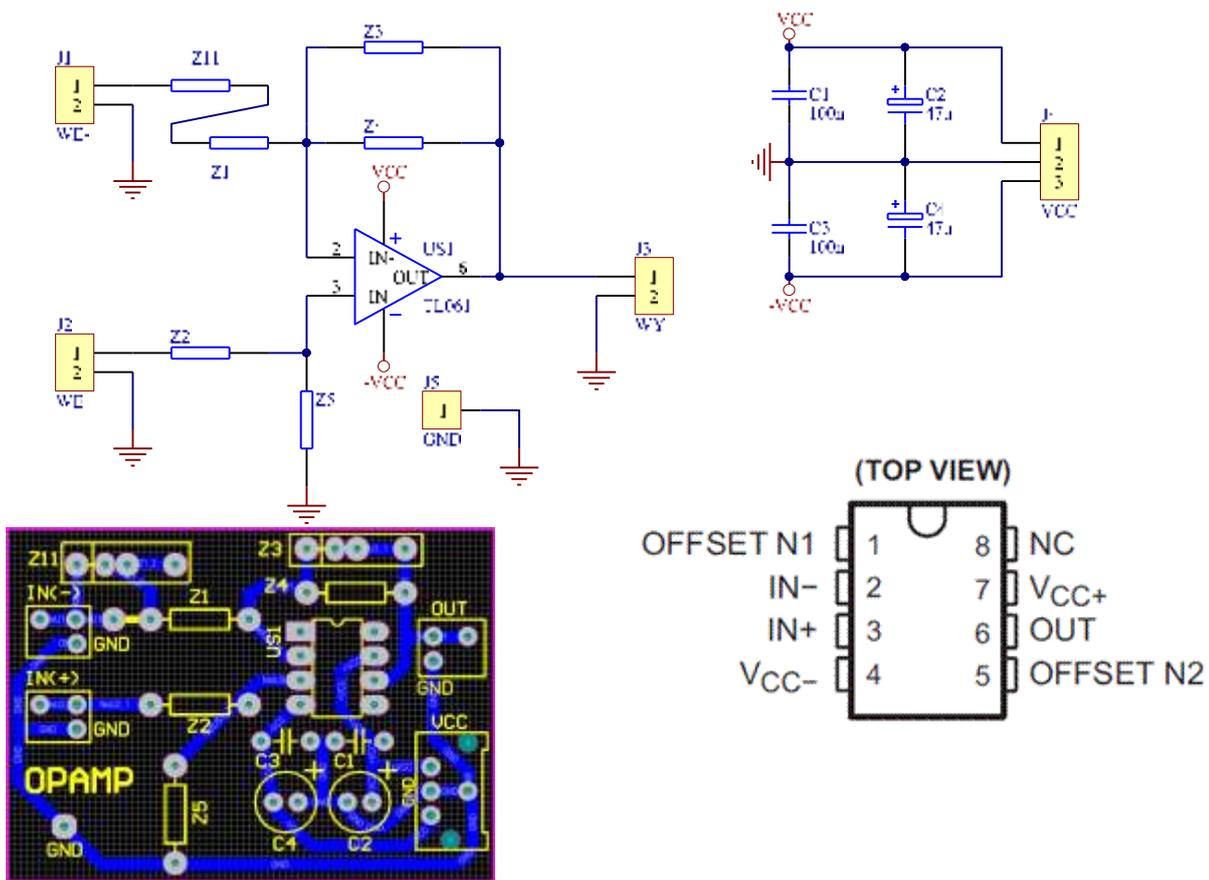
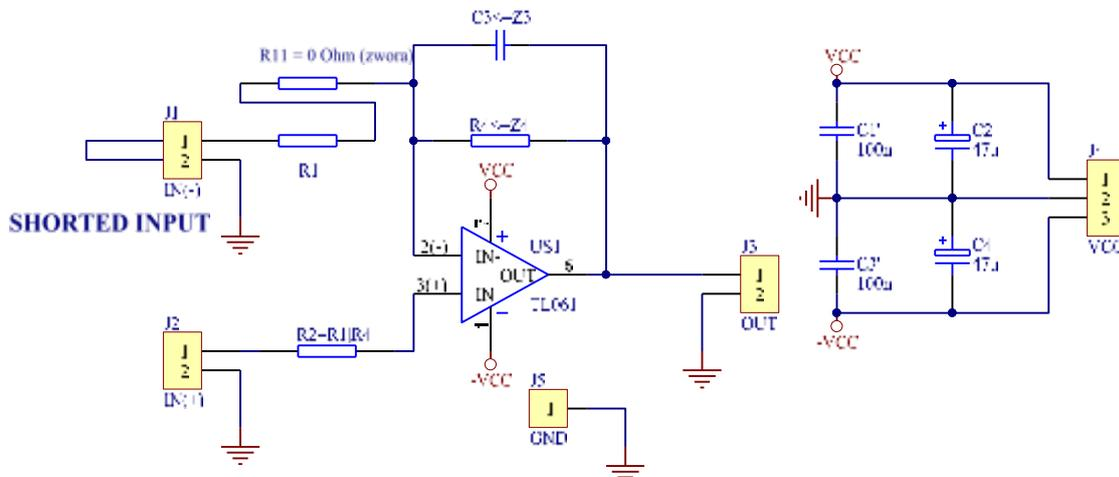

Fig.1. Basic Operational Amplifier schematic diagram, C1-C4 capacitors are used for power decoupling; PCB of the circuit; operational amplifier TL061 – pinout;
Fig.3., Non-inverting amp.
Fig. 3 shows the non-inverting amplifier circuit implemented in the structure of the circuit from Fig.1
- Assemble the circuit according to Fig..3.